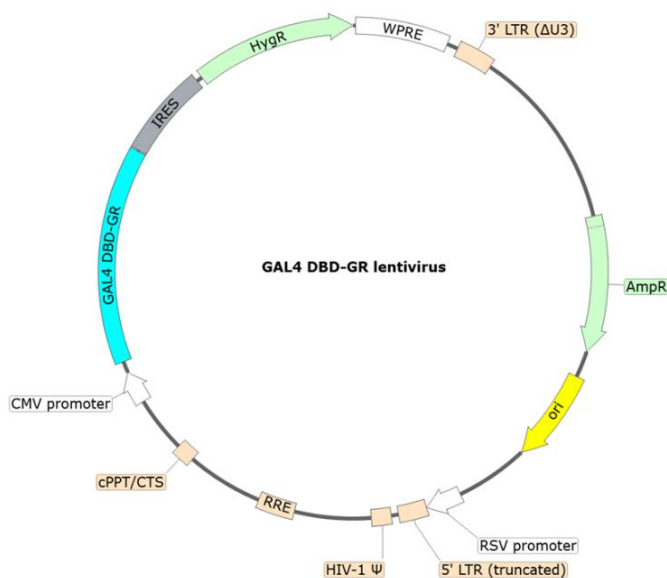

Figure 1. Schematic of the lenti-vector used to generate the GAL4 DBD-GR Lentivirus.
GAL4 DBD-GR (GAL4 DNA binding domain-glucocorticoid receptor) lentivirus are replication incompetent, HIV-based, VSV-G pseudotyped lentiviral particles that are ready to transduce almost all types of mammalian cells, including primary and non-dividing cells. The particles express a fusion protein in which the glucocorticoid receptor (GR) ligand binding domain is fused to the DNA binding domain of GAL4 (GAL4 DBD) (Figure 1). After co-transduction of GAL4 DBD-GR lentivirus and GAL4-responsive UAS luciferase reporter lentivirus (BPS Bioscience #78631), the glucocorticoid-induced activation of the glucocorticoid receptor can be monitored by measuring the luciferase activity.